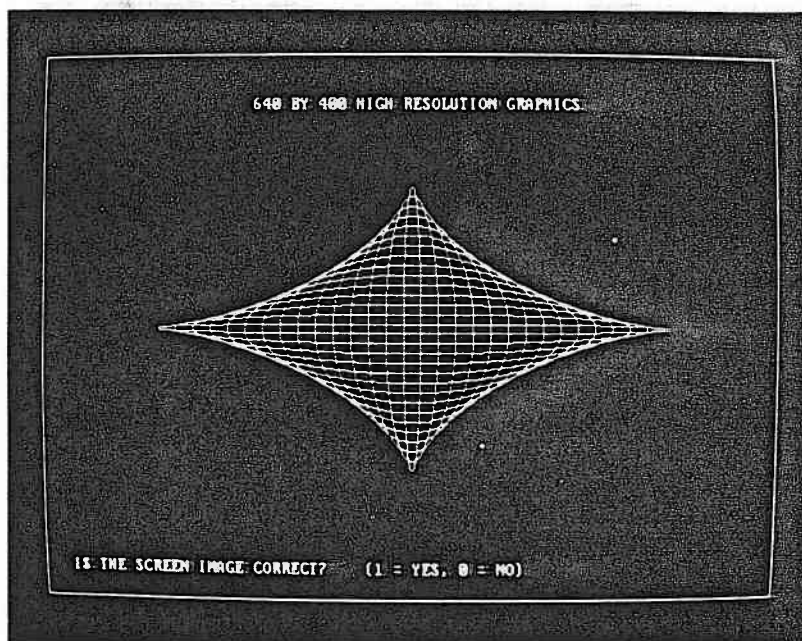

Figure 5-26. 640 by 400 High Resolution Graphics Pattern
19. After the fifteenth page, the 640 by 400 High Resolution Graphics pattern is displayed (Figure 5-26).
If the pattern shown on the screen is the same as Figure 5-26, press the **y** key. If it is not the same as Figure 5-26, press the **n** key followed by the **ENTER** key to continue with (abort) the video tests.